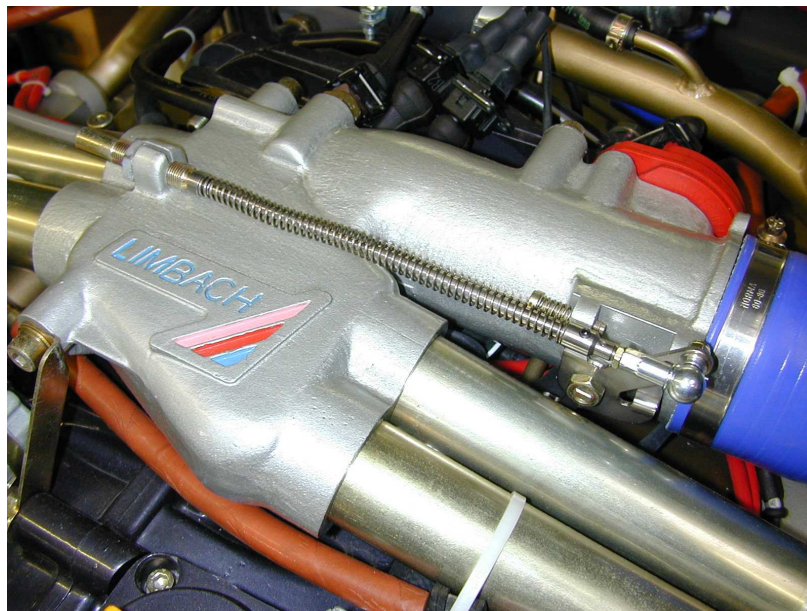
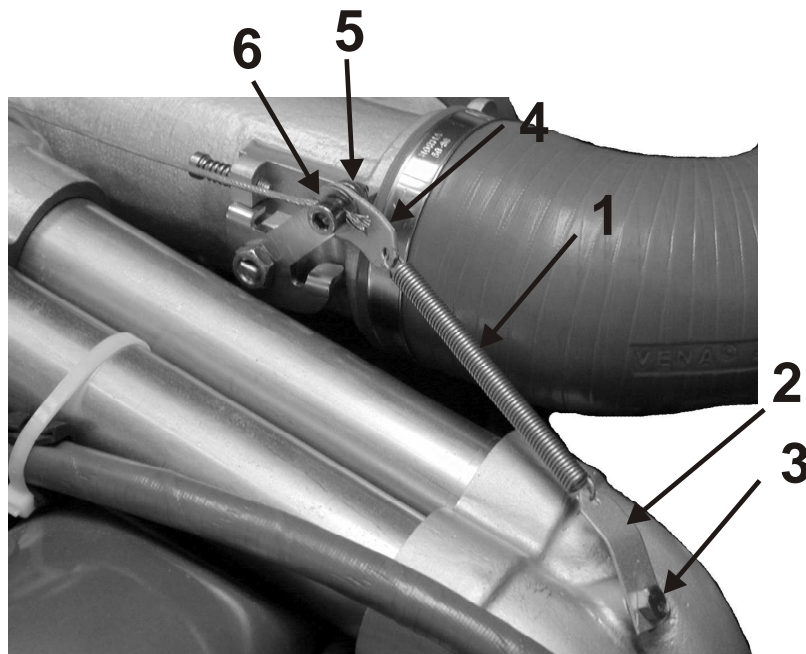

Fig. 3
Fig. 1
**Compliance:** The assembly kit used according to TB 67 (Fig.1) must be removed and replaced by an assembly kit according to Fig. 3